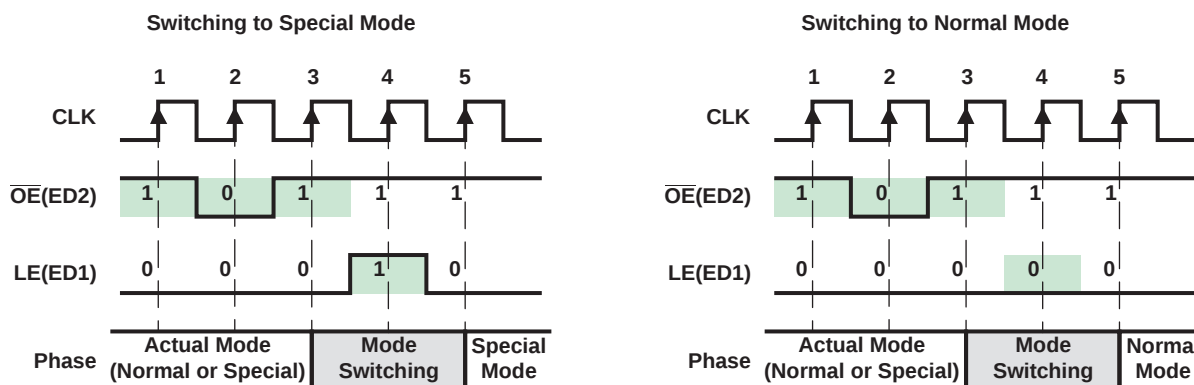

Figure 18. Mode Switching
To switch between its two modes, TLC5916/TLC5917 monitors the signal $\overline{OE}(ED2)$. When an one-clock-wide pulse of $\overline{OE}(ED2)$ appears, TLC5916/TLC5917 enters the two-clock-period transition phase, the Mode Switching phase. After power on, the default operation mode is the Normal Mode (see Figure 18).
As shown in Figure 18, once a one-clock-wide short pulse (101) of $\overline{OE}(ED2)$ appears, TLC5916/TLC5917 enters the Mode Switching phase. At the fourth rising edge of CLK, if $LE(ED1)$ is sampled as voltage high, TLC5916/TLC5917 switches to Special Mode; otherwise, it switches to Normal Mode. The signal $LE(ED1)$ between the third and the fifth rising edges of CLK cannot latch any data. Its level is used only to determine into which mode to switch. However, the short pulse of $\overline{OE}(ED2)$ can still enable the output ports. During mode switching, the serial data can still be transferred through SDI and shifted out from SDO.